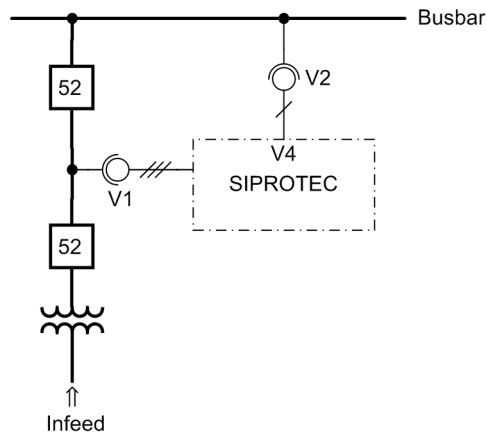

Figure 3-37 Measuring voltages for the synchro-check
- Then the circuit breaker is closed while the line isolator is open (see Figure 3-37). Both voltage transformers therefore measure the same voltage.